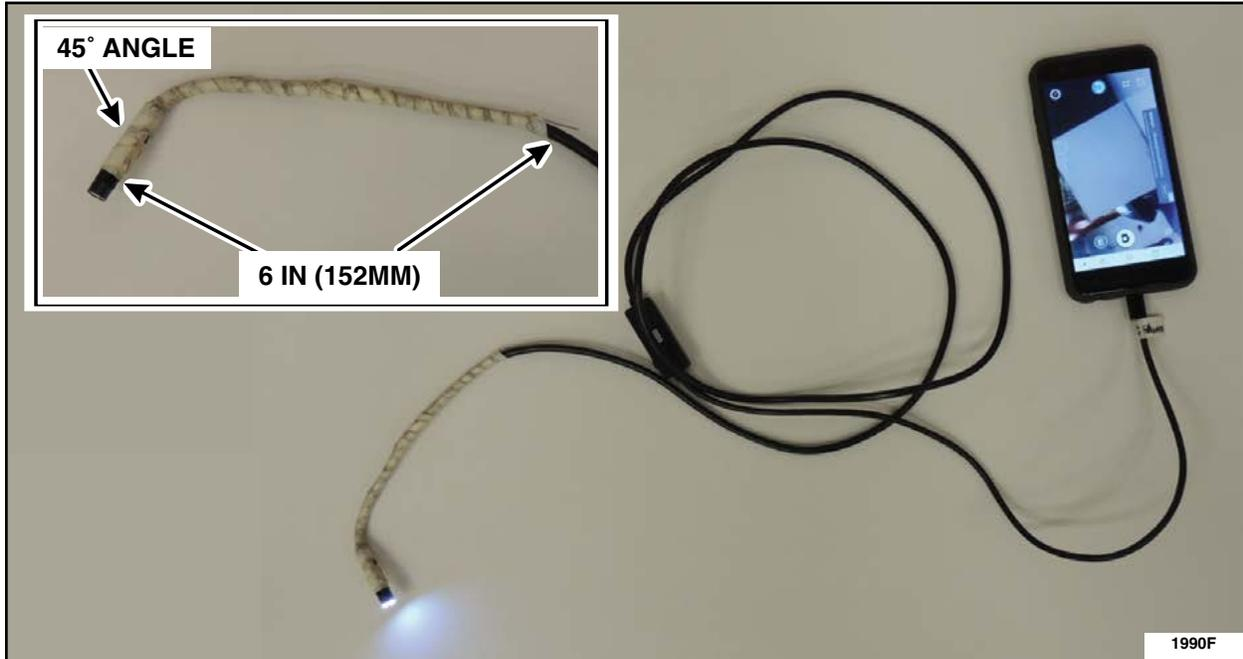

FIGURE 3
- Using a flexible borescope with an outer diameter no bigger than 7mm, such as a Waterproof HD 2M/7mm Endoscope Lens Mini USB Inspection Camera with 6 LED Lights Borescope (or equivalent), position the camera end of the scope at a 45° angle. See Figure 3.